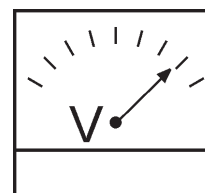

Figure 44. AC Voltmeter
9. The generator's voltage meter (Figure 44) displays the output voltage in **VOLTS**.